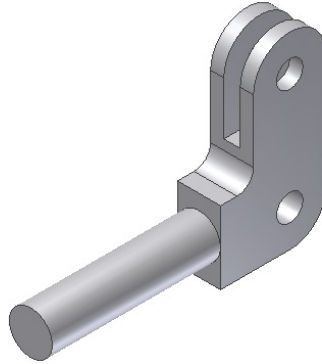

Figure 8-150 Model after creating the join feature
1. Create the cylindrical join feature, as shown in Figure 8-150. For dimensions,